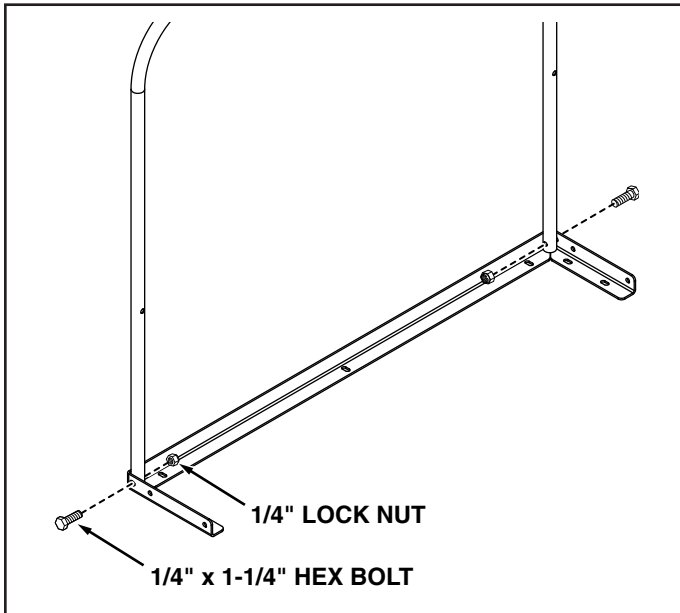

FIGURE 23
7. Secure front support tube to top angle support using two 1/4" x 1-1/4" hex bolts and 1/4" lock nuts. **DO NOT TIGHTEN YET.** See figure 23.